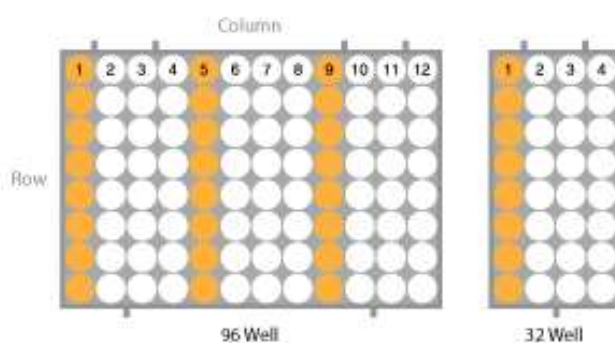

Figure 6: Samples wells (marked in orange) in respect to the Plate type
2. Vortex the sample for 10 sec, dispense 200µl of samples into the sample wells (in a 96 wells plate: apply samples to the 1st, 5th, and 9th columns; in a 32 wells plate: apply samples to the 1st column) of the extraction plate (figure 6).